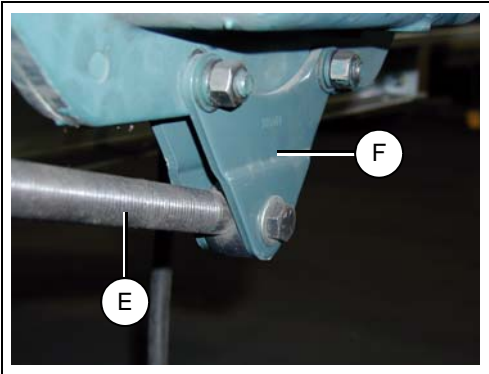

Figure 5E
6. Install the torque arm between the two (2) plates that are located on the bottom of the reducer drive. Secure using bolt with washers and lock nuts. Attach the other end to the torque arm bracket on the conveyor using two bolts, washers and lock nuts. Tighten the torque arm by turning the turnbuckle. Adjust the position of the reducer. The reducer should be in a vertical position as shown on Page 23. (See Figure 5E.)